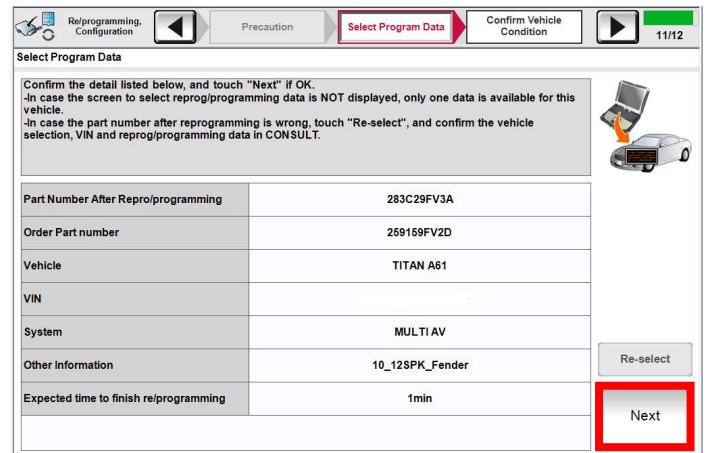

Figure 26
29. Confirm the information is correct for the vehicle you are working on and select **Next**. (Figure 26)